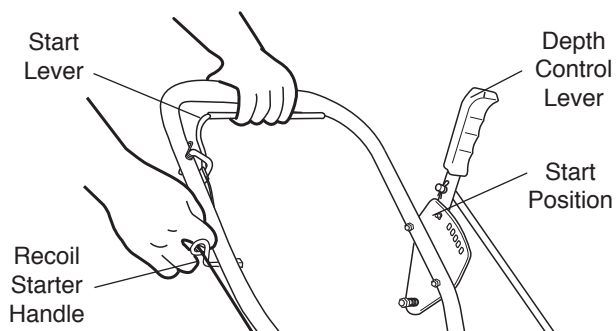

Figure 6
2. Move the Depth Control Lever to the Start Position. (See Figure 6)
4. Firmly grip the edger handle with your left hand, pulling the Start Lever against the handle. (See Figure 6)
5. Firmly grip the Recoil Starter Handle with your right hand. (See Figure 6)
Release the start lever (See Figure 6). This will ground out the engine through the ground wire, causing the engine to stop.